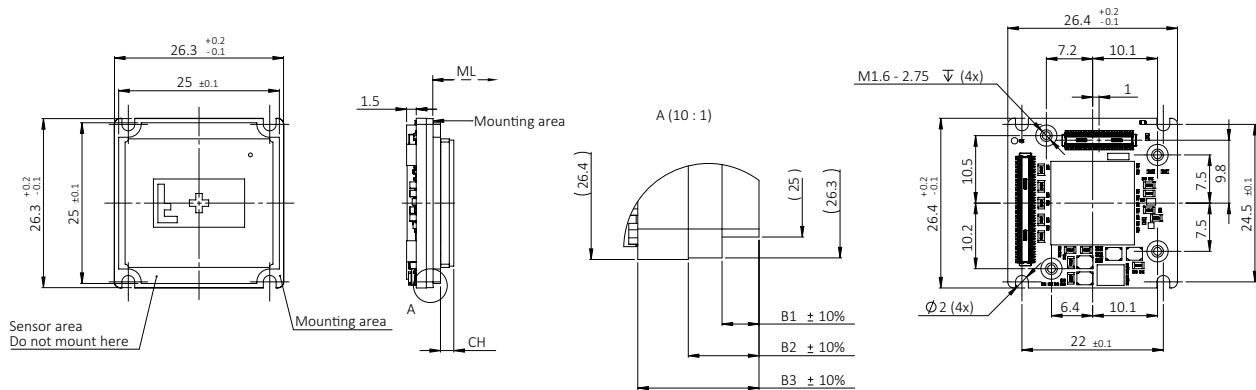

Figure 71: Bare Board (Alvium Flex) dimensions
Dimensions that are common between different models are shown in Figure 71. Model specific dimensions are listed in Table 100. **Mechanical length (ML)** defines the mechanical distance from the mounting area to the lens mount front flange, without optical filter. **Components height (CH)** relates to the electronic components with maximum height, in some cases the sensor.